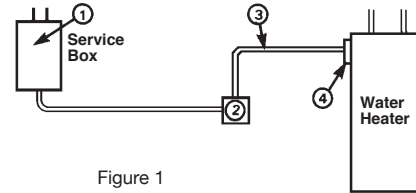
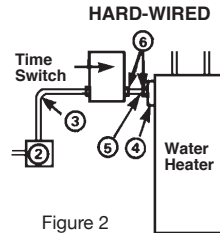
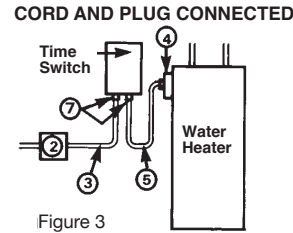

Figure 1
Figure 2
Figure 3
- Plan a convenient location for the Time Switch, preferably eye level (also out of reach of small children), and such that existing cable (Fig. 2 or Fig. 3, Item ③) may be utilized.
- Measure the distance ⑤ from the Time Switch to Water Heater Terminal Box ④. Also measure distance ③ from Time Switch to Junction Box if existing cable (Fig 2, Item
③) is too short. Allow for slack and 6 inches of hook-up leads at each end to facilitate wiring connections.
If your water heater is **HARD WIRED**: (See Fig. 2.)
If your water heater is **CORD and PLUG** connected: (See Fig. 3)
If your water heater is **HARD WIRED**: Remove the cover of water heater terminal box (Fig. 1, Item ④) **IS ELECTRICITY TURNED OFF?**
NOTE COLORS OF WIRES. Disconnect wires and cable connector. Remove the most convenient knockout of the time switch case and attach cable (Fig. 2, Item ③) and cable connector to case. Prepare another cable (Fig. 2, Item ⑤) by stripping the ends of wires about half inch. Using cable connector (Fig. 2, Item ⑥), attach this cable to water heater terminal box and then the wires to water heater terminals.
Remove plug at end of water heater cord (Fig. 1, Item ③). Split cord about 6 inches and strip wire ends 1/2 inch. Remove the most convenient knockout of the time switch case. Install strain relief grommet (Fig. 3, Item ⑦) and attach cord to case as shown. Next, install strain relief grommet to the other cordset (Fig. 3, Item ⑤) and attach cordset to case as shown.